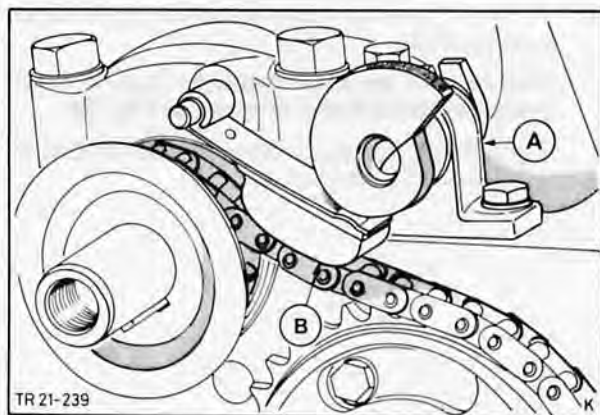

Fig. 58. Chain tensioner installed
43. Fit timing chain tensioner and torque bolts as specified. Compress spring and slide tensioner arm on to pin on main bearing cap. Release chain tensioner spring, Fig. 58.